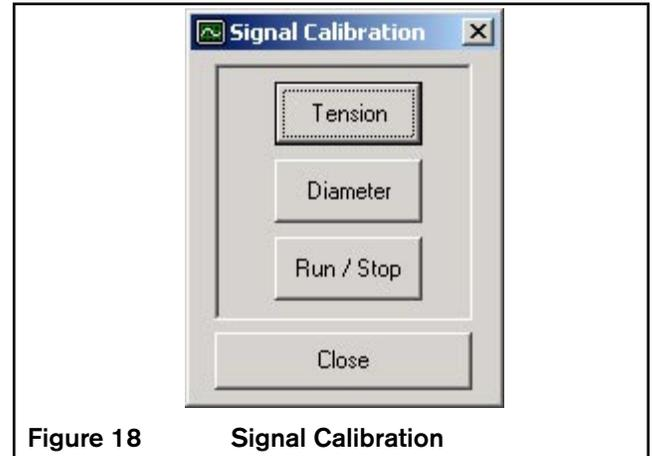

Figure 18 Signal Calibration
1. Press TENSION (See Figure 18).
1. Press DIAMETER (See Figure 18).